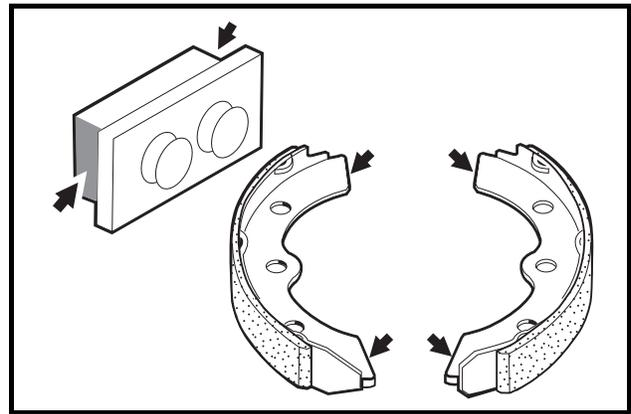

Figure 6-9 Lubricate Shoes
5. Use a small brush to carefully apply a light coat of white lithium NLGI #2 grease (Dow Corning BR2-Plus or equivalent) to each end of both brake shoes and into the slots in the brake shoe mounting block as shown (Figure 6-9, Page 6-4). See preceding WARNING.